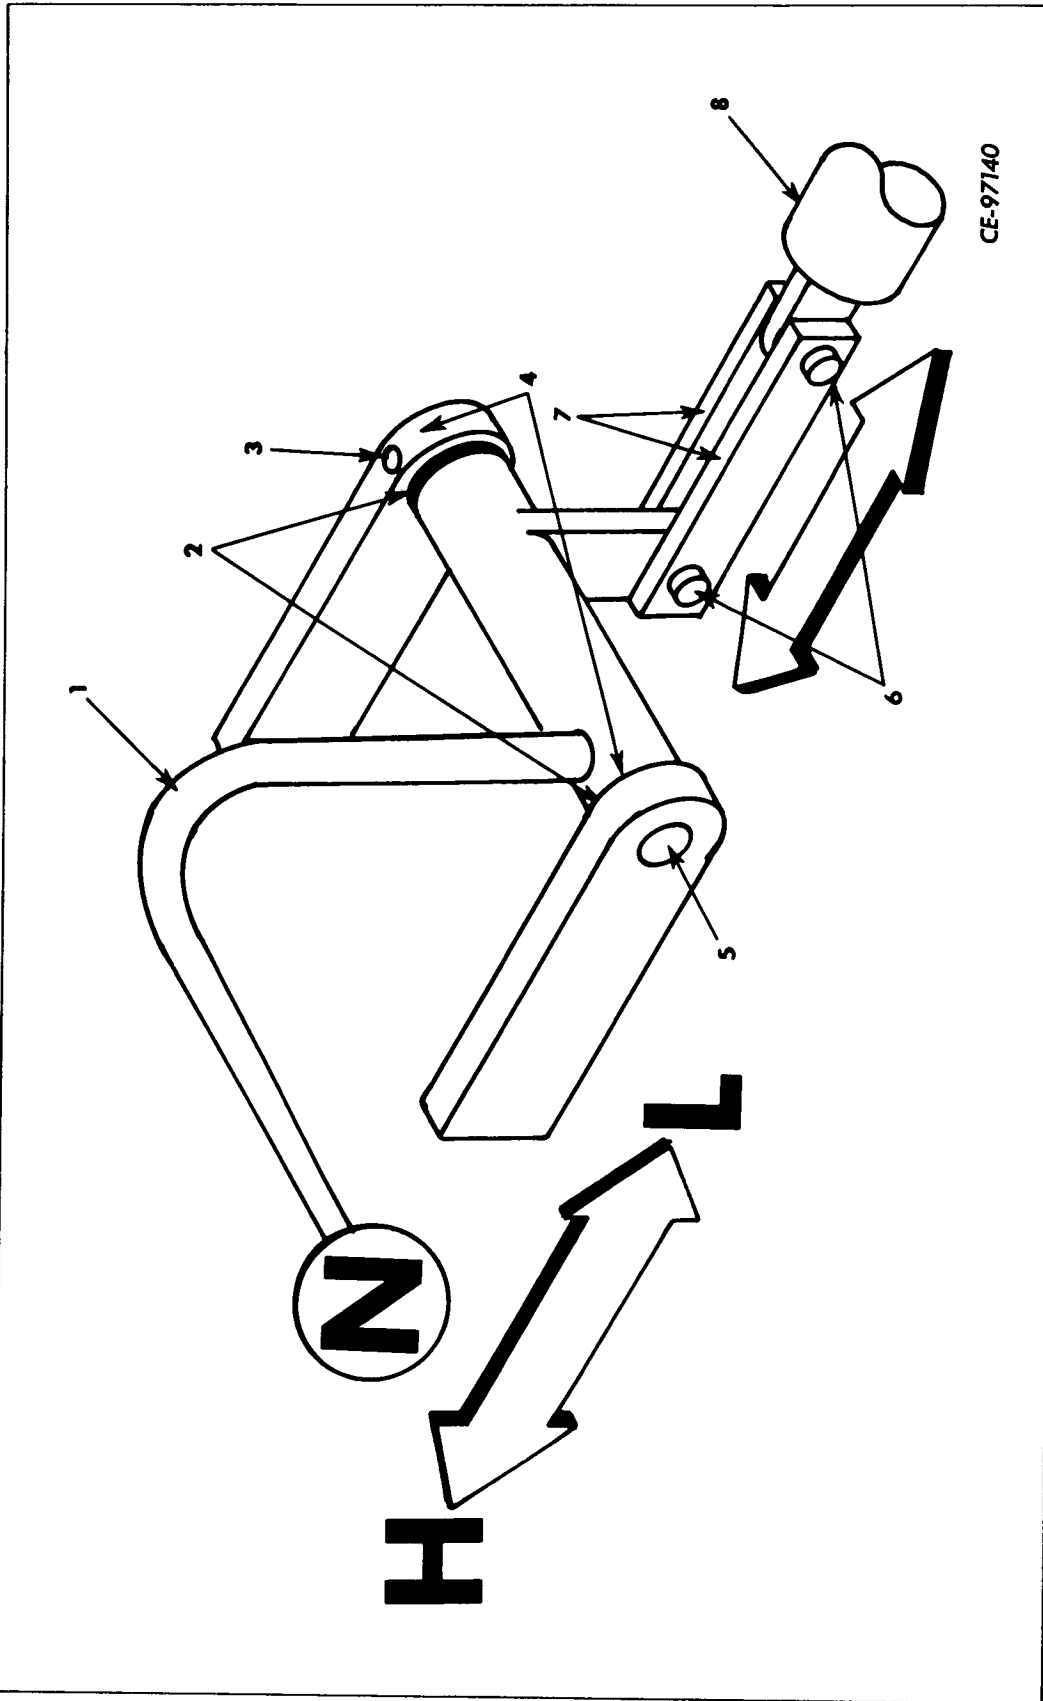

Figure 9-3
Disconnect control lever (1, Fig. 9-3) from valve spool (8) by removing cotter pins and clevis pins (6).